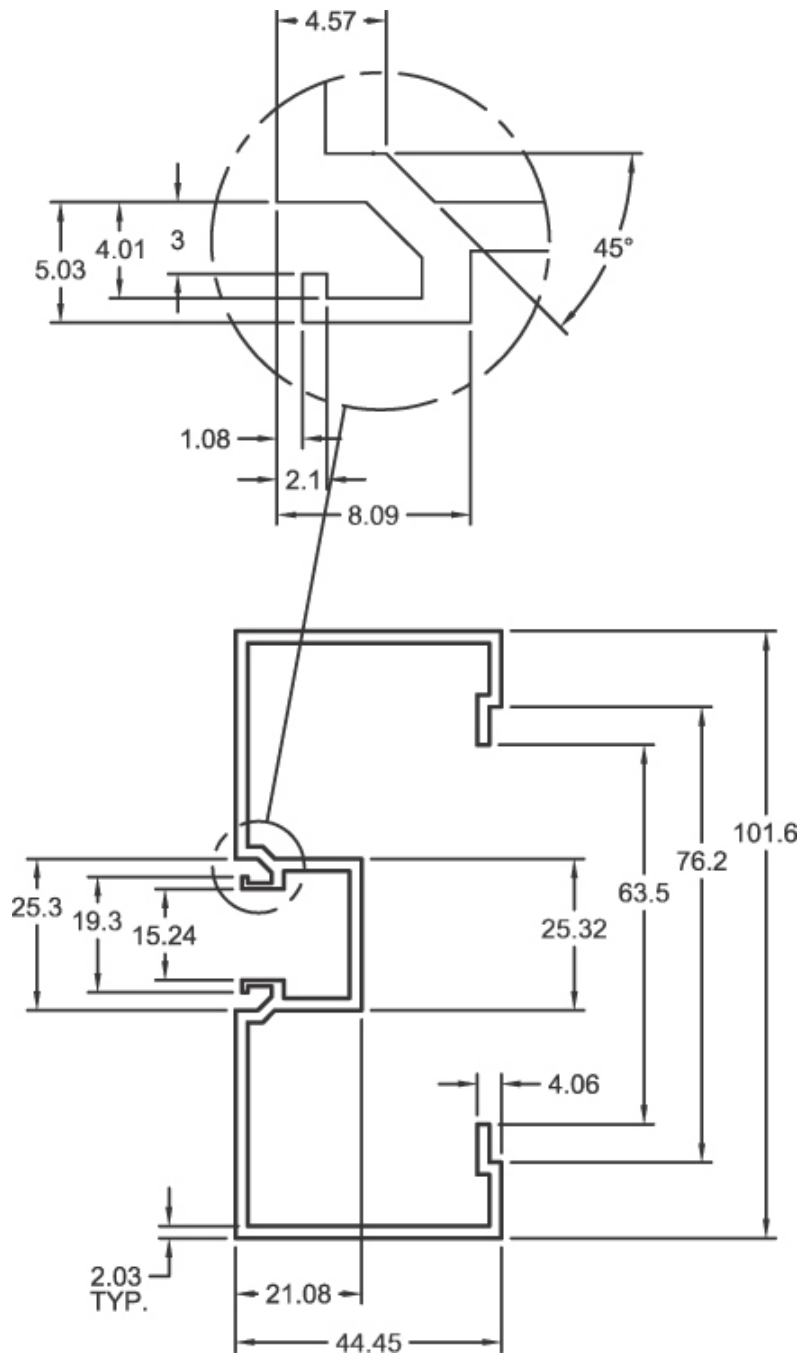

Figure 9-53
3. Draw the window extrusion as shown in Figure 9-53 using a single polyline on layer **Object**.